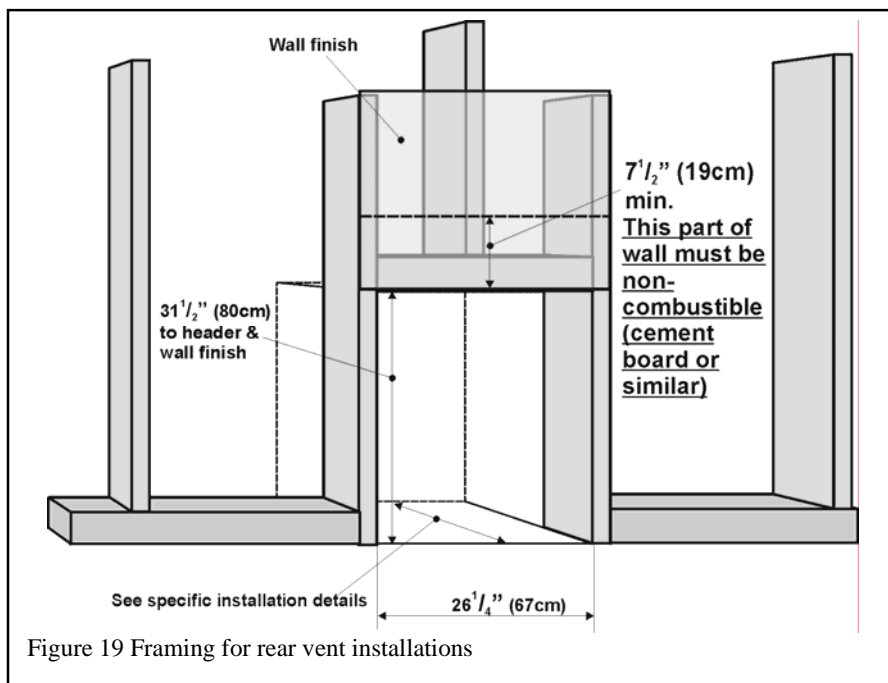
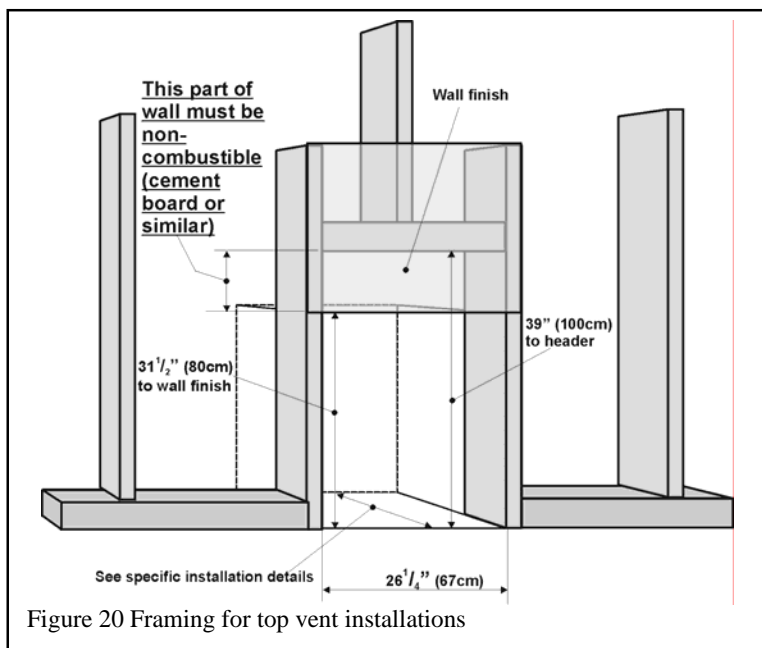

Figure 19 Framing for rear vent installations
Figure 20 Framing for top vent installations
The framing dimensions for appliances with rear vent connection are shown in figure 19. The framing dimensions for appliances with top vent connection are shown in figure 20.
- Be aware of the area $7\frac{1}{2}$ " x $26\frac{1}{4}$ " (19cm x 67cm) immediately above the opening which must be constructed with non-combustible materials as shown in figures 19 & 20